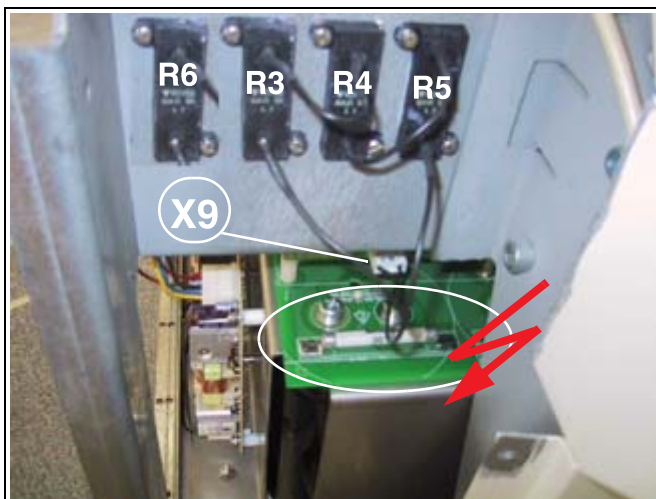

Fig. 27: Right front
(X9/Fig. 27 / p. 42)
- ⇒ If residual charges > 2 V exist, individual capacitors can be manually discharged via R6 (R6/Fig. 27 / p. 42).
- When connecting, first start with X9 (cable for "discharge resistors" X9/(Fig. 27 / p. 42)).
- ⇒ If residual charges > 2 V exist, individual capacitors can be manually discharged via R6 (R6/ Fig. 27 / p. 42).
- When connecting, start with X9 (cable for "discharge resistors" X9/(Fig. 27 / p. 42)).
- Measure at the terminals of each capacitor to make sure the voltage is approx. 0V in each case. Discharge with R6 if necessary (R6/Fig. 27 / p. 42).